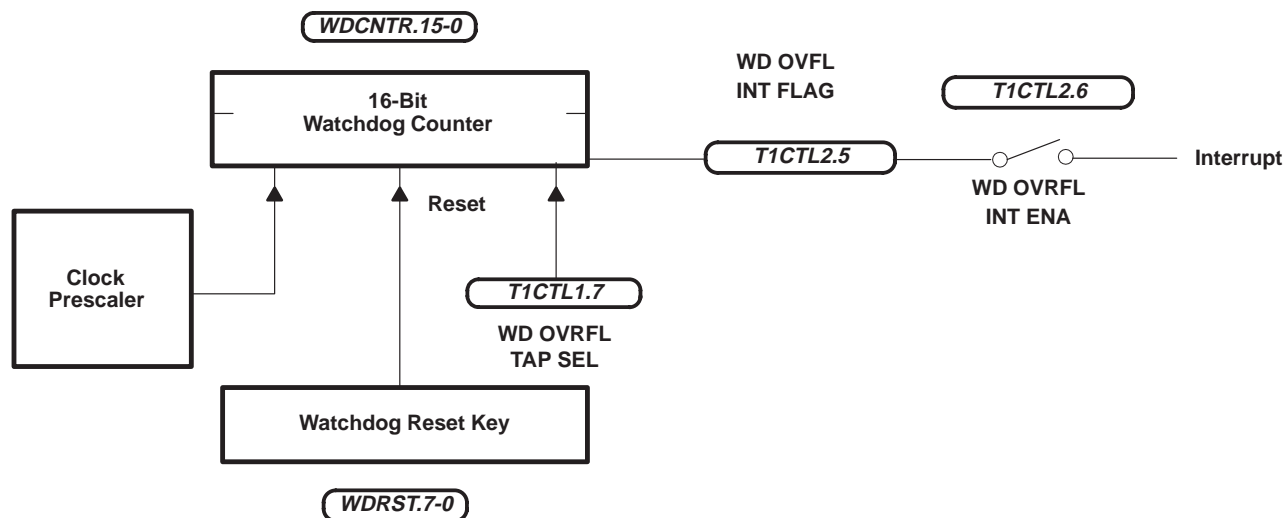

Figure 10. Simple Counter
- Simple counter configuration – for mask-ROM devices only (see Figure 10)